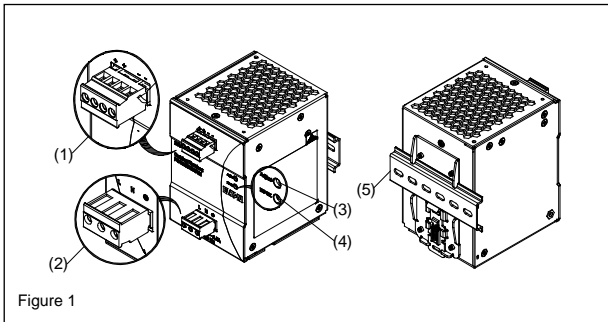
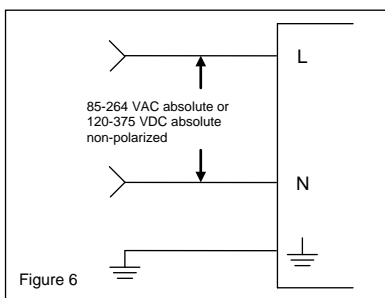

Figure 1
Figure 6
2. Device description (Fig. 1)
5.1. Input connection (Fig. 1 (1), Fig. 6)
Use L, N and PE connections of input terminal connector (see Fig. 1 (1)) to establish the 100-240 VAC connection.
5.2. Output connection (Fig. 1 (2))
Use the "+" and "-" screw connections to establish the 24 VDC connection. The output provides 24 VDC. The output voltage can be adjusted from 24 to 28 VDC on the potentiometer. The green LED DC OK displays correct function of the output (Fig. 1 (4)). The device has a short circuit and overload protection and an overvoltage protection limited to 35 VDC.